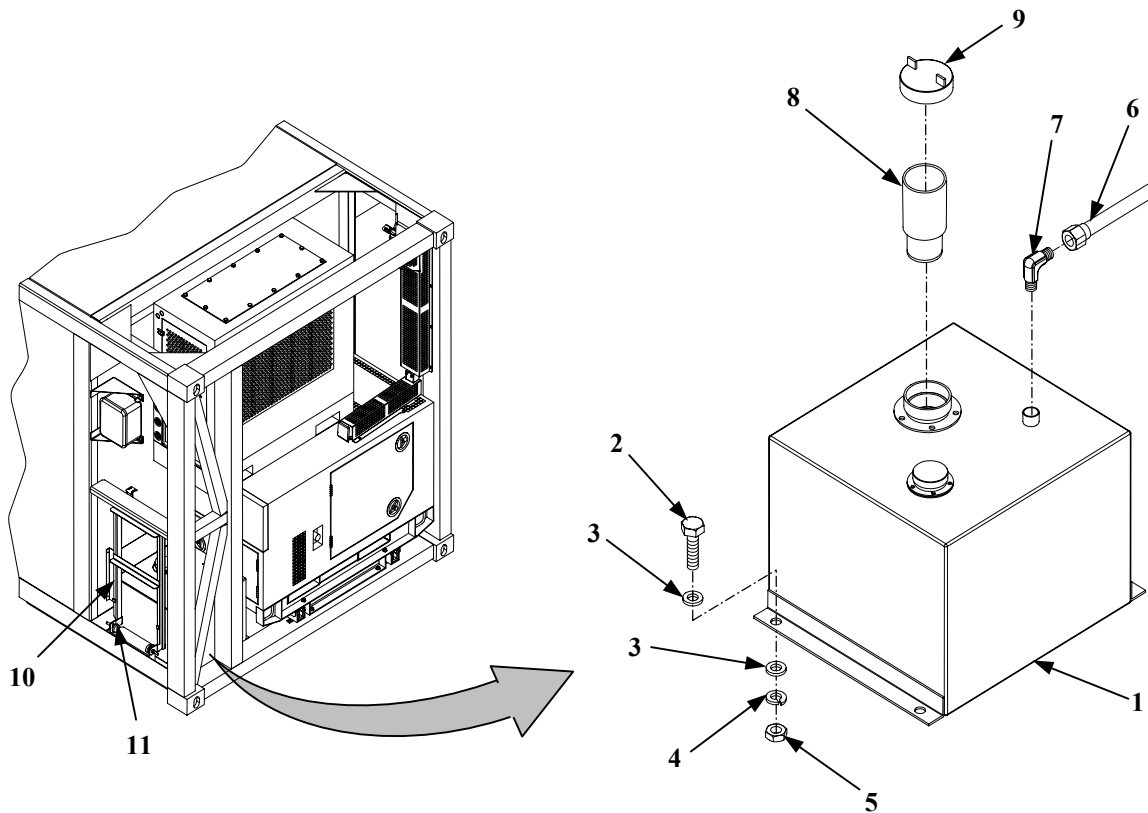

Figure 4. Auxiliary Fuel Tank Installation
1. Install fuel tank (1, Figure 4) and secure with four screws (2), eight flat washers (3), four lock washers (4) (Item 30, WP 0081 00) and nuts (5).
2. Attach fuel hose (6) to elbow (7).
3. Install fuel strainer (8) in fuel tank (1).
4. Service fuel tank (1) as required.
5. Install fuel cap (9).
6. Raise ladder (10) into stowed position and tighten two knobs (11).